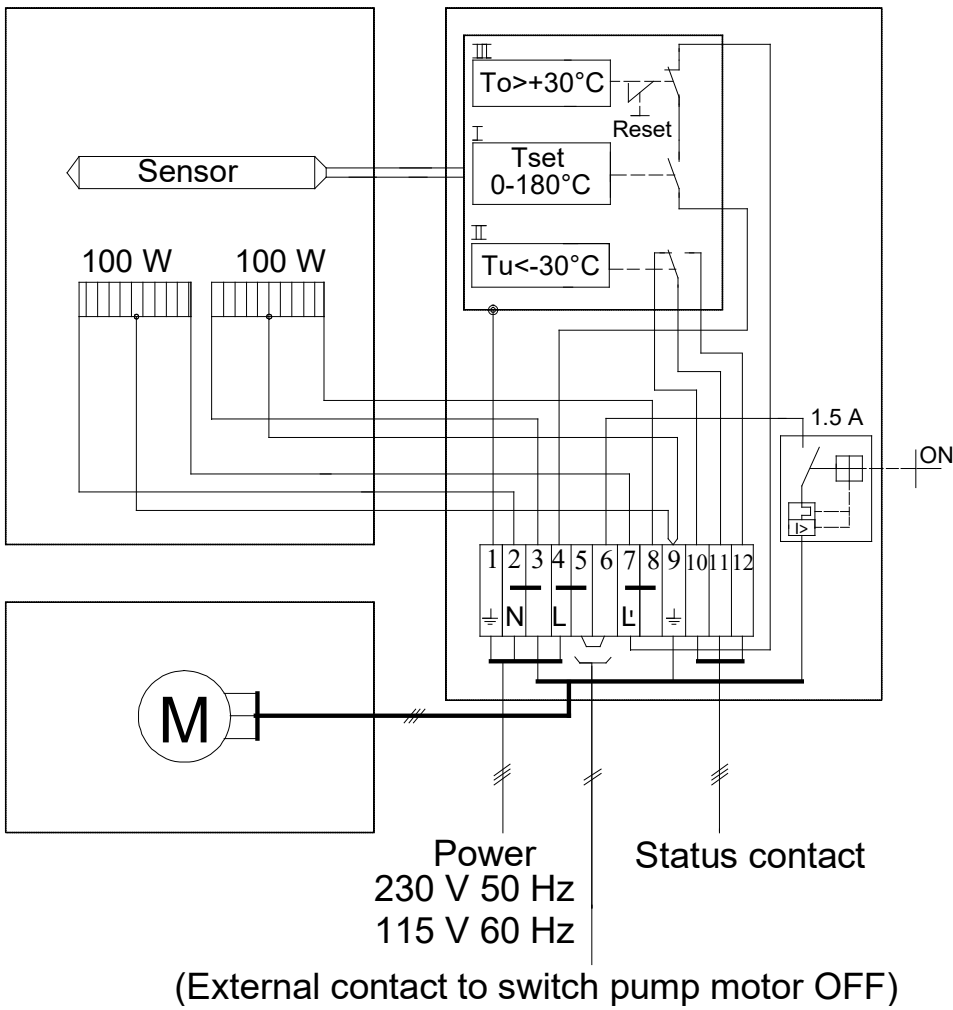

Figure 3 Electrical connection
When making the electrical installation, shown in Figure 3, the safety regulations must be observed. In particular make sure that the electricity supply is isolated before trying to connect the pump.
2. Insert the mains cable (min. 3 x 1.5 mm²) through the threaded cable gland and connect to the appropriate terminals (see Figure 3).
3. Insert the signal cable through the treaded cable connection and connect to the appropriate terminals (see Figure 3).
Figure 3 shows the electrical connection of the diaphragm pump.